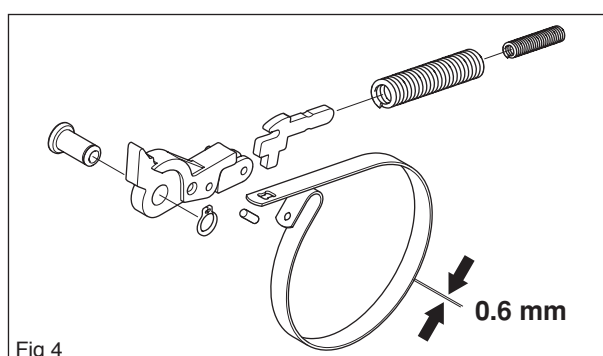

Fig 4
- Measure the thickness of the chain brake band. It must not be less than 0,6 mm in any place. See figure 4.